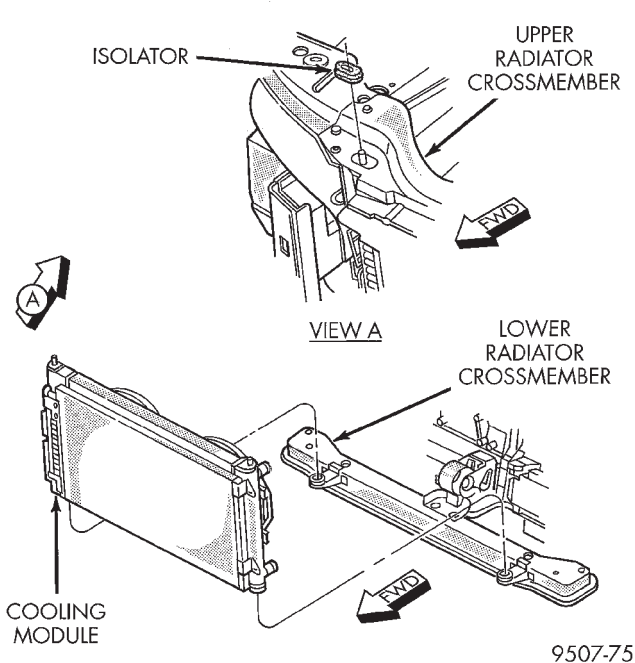

Fig. 31 Cooling Module Mounting
(2) Drain cooling system. Refer to Draining Cooling System of this section.
(3) Remove upper radiator crossmember (Fig. 31). Refer to Group 23, Body for procedure.